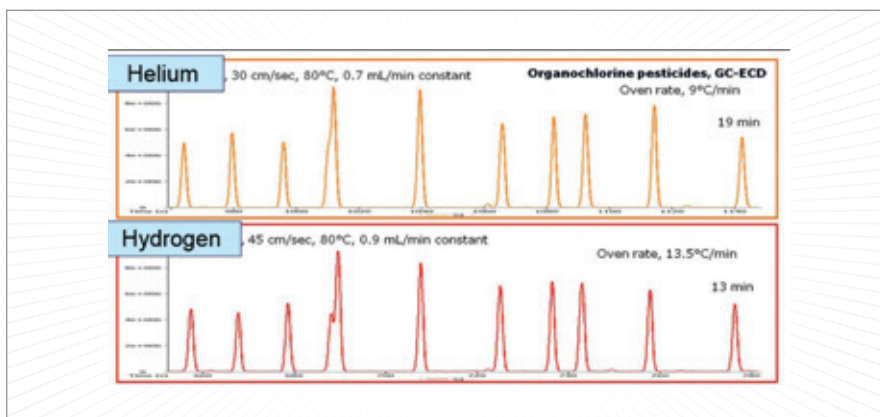

Figure 3. Helium versus hydrogen.
iv) Use a faster carrier gas. Hydrogen has about 50 percent higher optimal linear velocity compared with helium, which enables significantly faster separations while efficiency remains comparable (see Figure 3). As the linear velocity is changing, to get a similar chromatogram you have to adjust oven temperature using method translation (1). The great thing about hydrogen is that it is relatively cheap and you can make it in the laboratory using a generator. A potential downside with hydrogen is safety,